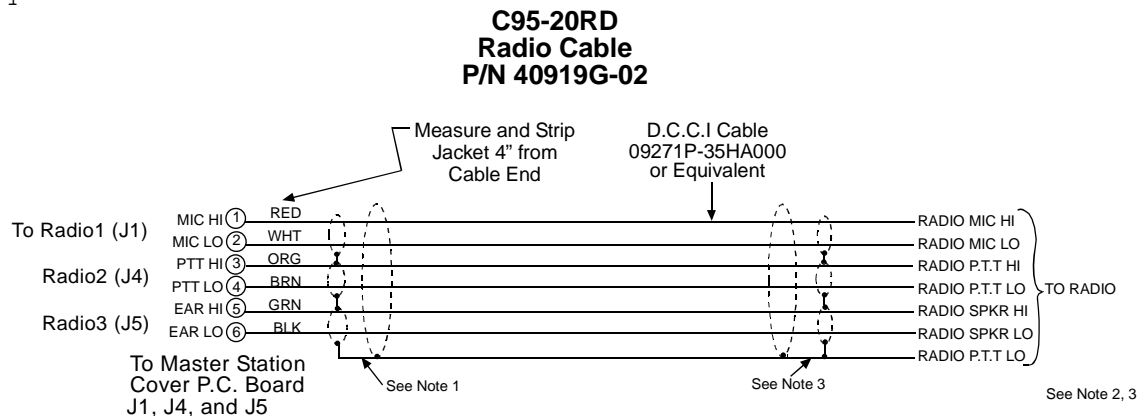

Figure 5
- q If necessary, trim the length of the cable to the length you just determined in the previous step. Be sure to trim the un-prepared Radio end of the cable. See **Figure 5** above.
- q Review pin assignments for radio connector and determine which wires to connect to each pin. Using wire cutters and wire strippers, prepare the cable for the connector. Install the connector, using heat shrink tubing as necessary. The shield in this cable should be connected to GND or PTT LO on the radio, along with the Brown wire. See **Figure 5 & Appendix A**.